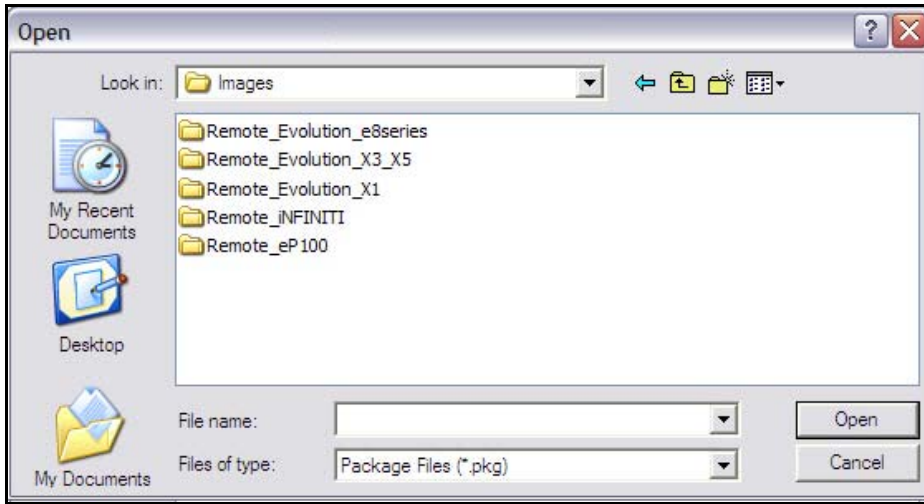

Figure 15. Open Dialog Box with Images Folder
- Navigate to the remote packages on your laptop. They are located in the Images folder for your release, as illustrated in Figure 15.